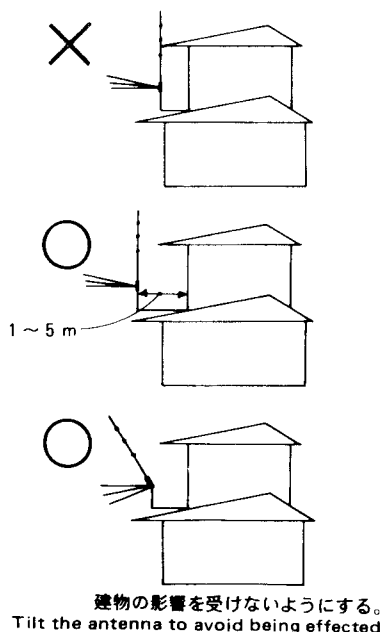

Fig. 4
- 1 Connect suitable swr bridge or in-line power meter such as WELZ SP-300 between the transceiver and the antenna as shown in Fig. 4.